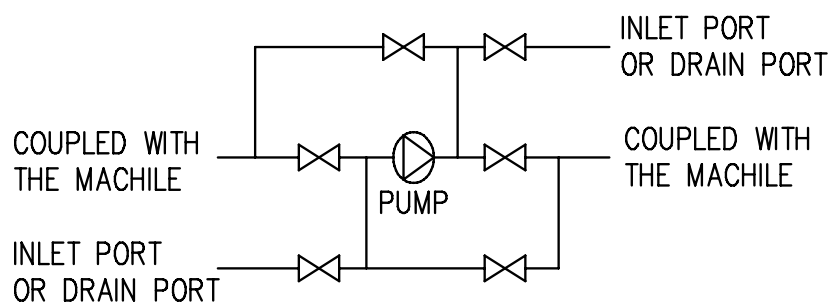

Fig. 7-17. Tube Cleaning Circuit around Pump
(1) Prepare water, cleaning agent, neutralizing agent and rust preventive.
(2) Confirm the area and circuit to be cleaned.
(3) Prepare protection tools (Gloves, Goggles, Mask, Etc.)
(4) Make the cleaning circuit around the pump as shown in Fig. 7-17. for reversing water flow.